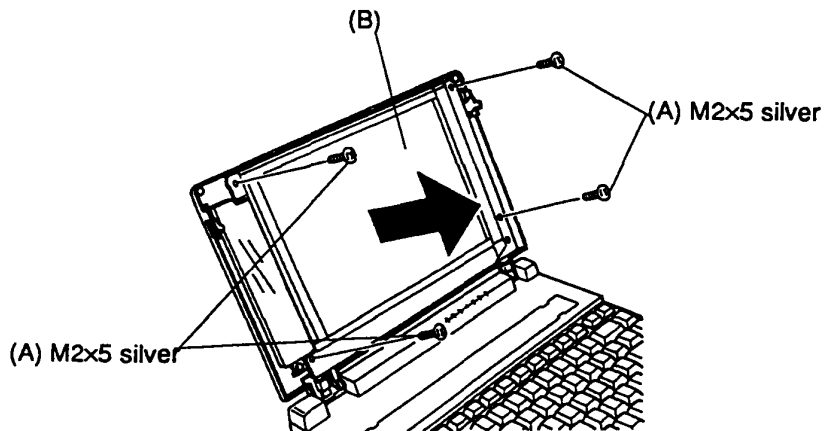

Figure 4-28 Removing the plasma display screws
3. Remove the four (M2x5 silver) screws (A) securing the plasma display (B) (Figure 4-28).
9. Align the plasma display and the display cables on the display cover of the plasma display and secure the display with the four (M2x5 silver) screws (Figure 4-28).